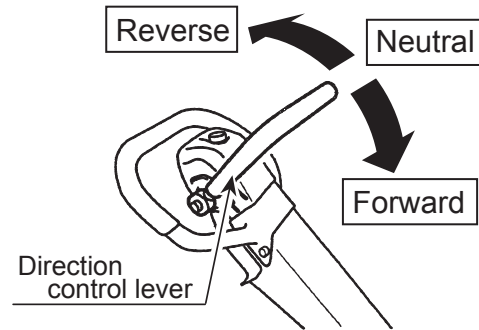

Figure 21. Direction Control Lever
3. The direction control lever allows the machine to be moved either backward or forward (Figure 21). When the direction control lever is pushed forward, the machine moves forward. When pulled backward, the machine moves backward.